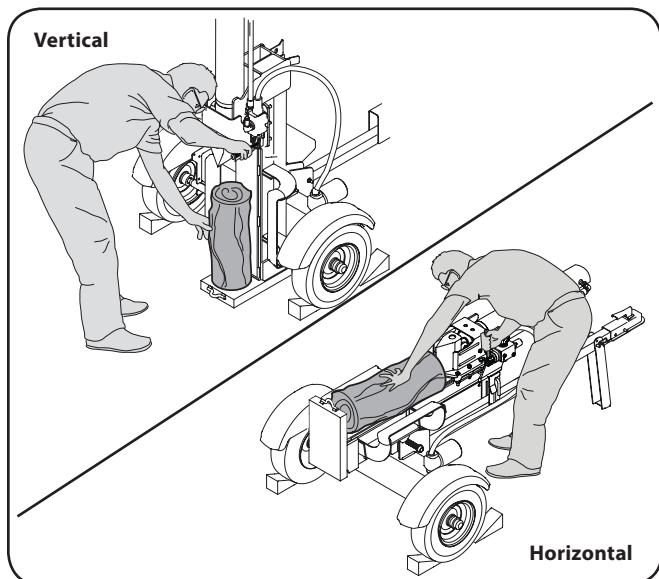

Figure 6-1
2. Block the front and back of both wheels. See Figure 6-1.